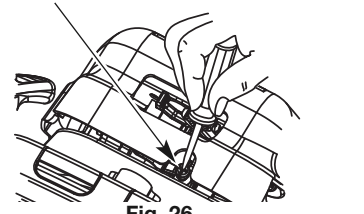

Fig. 26
The idle speed of the engine is adjustable. An idle adjustment screw is between the air filter cover and the engine starter housing (Fig. 26).
2. Release the throttle trigger and let the engine idle. If the engine stops, insert a small phillips or flat blade screwdriver into the hole in the air filter/muffler cover (Fig. 26). Turn the idle speed screw in, **clockwise**, 1/8 of a turn at a time (as needed) until the engine idles smoothly.